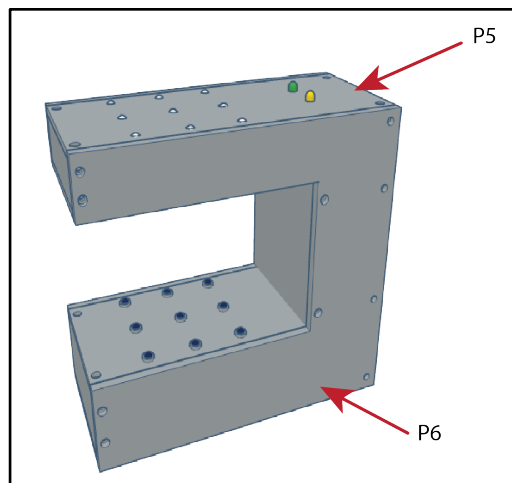

Figure 35. Completed RetlNaBox
- e. Attach parts P5 and P6 (**Fig. 35**). You have now finished building RetlNaBox!